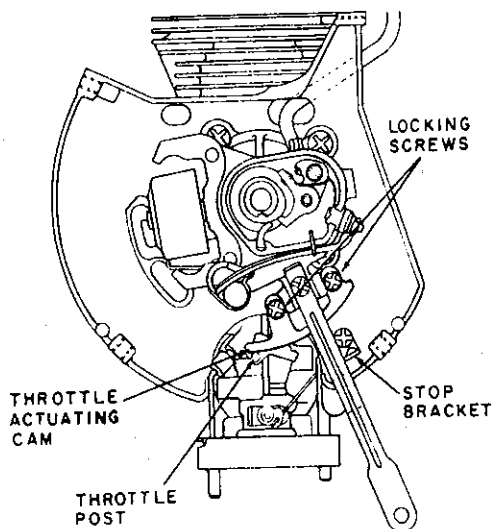

Figure 30
- C. Move the stator counter-clockwise, advancing the timing until the continuity reading breaks and reads zero. Tighten the stop bracket so that the stator won't move any further counter-clockwise. (See Figure 30.)
- (3) With a continuity indicating device connected to the point terminal post and ground, retard the timing (move operating lever clockwise) until the points close and continuity is established. The operating lever should be at full-run position to start. Find the point where continuity breaks, then hold the magneto position.
- (4) Move the throttle actuating cam (see Figure 30) right side so that the cam just touches the throttle post without moving it. Tighten the retaining screw slightly to hold that position.
- (5) Leave the continuity device attached, but move the operating lever back to the full-run position. Usually, the cam left slot may be readjusted. Work carefully.
- (6) Recheck idle (using continuity device), then full-run position alternately until the operating lever can be moved from one position to the other without having to make some minor adjustment to the cam position.